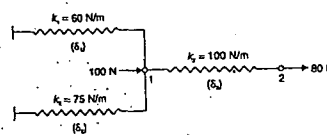

Fig. 13. b
- 13.b Determine the displacement and the reaction forces at nodes in the spring system shown in Figure. 13. b Use minimum of potential energy principal to assemble equations of equilibrium. 16